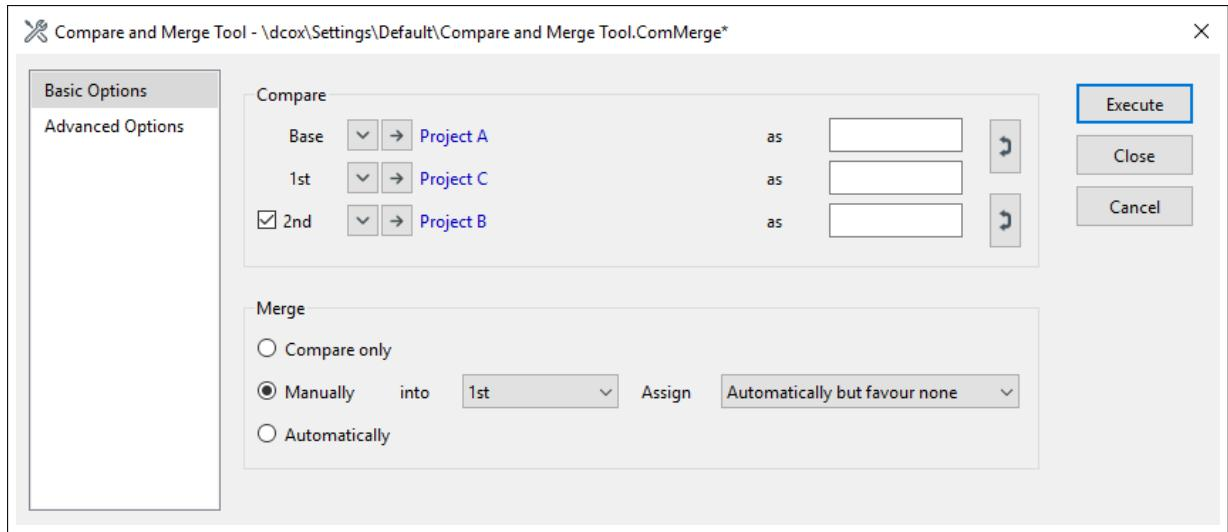

Figure 21.4.1: Compare and Merge Tool options dialog for a three-way merge
3. Right-click the multi-selection and select the option *Compare to "<project>"*. The CMT options dialog will appear as shown in Figure 21.4.1. The <Base>, the <1st> and the <2nd> project are listed in the *Compare* section of the dialog.